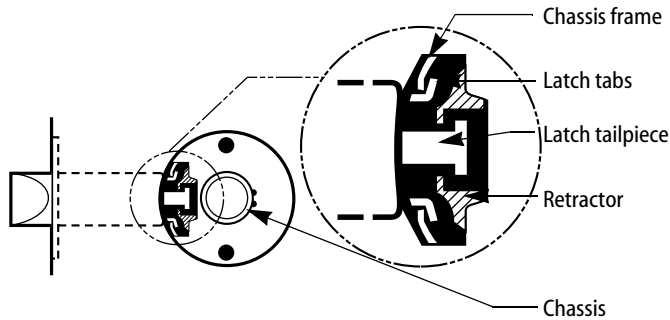

Figure 5
- With the latch in place, install the chassis from the outside. Make sure the latch tabs engage the chassis frame and the latch tailpiece engages the retractor (see Figure 5).